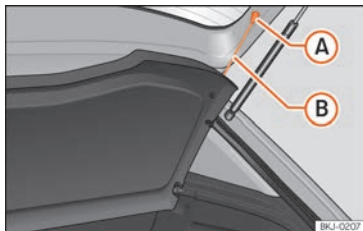

Fig. 163 In the boot: removing and installing the shelf.
- Detach the cord loops » **Fig. 163 B** from their hooks **A**.
- Hook the loops » **Fig. 163 B** to the rear lid.